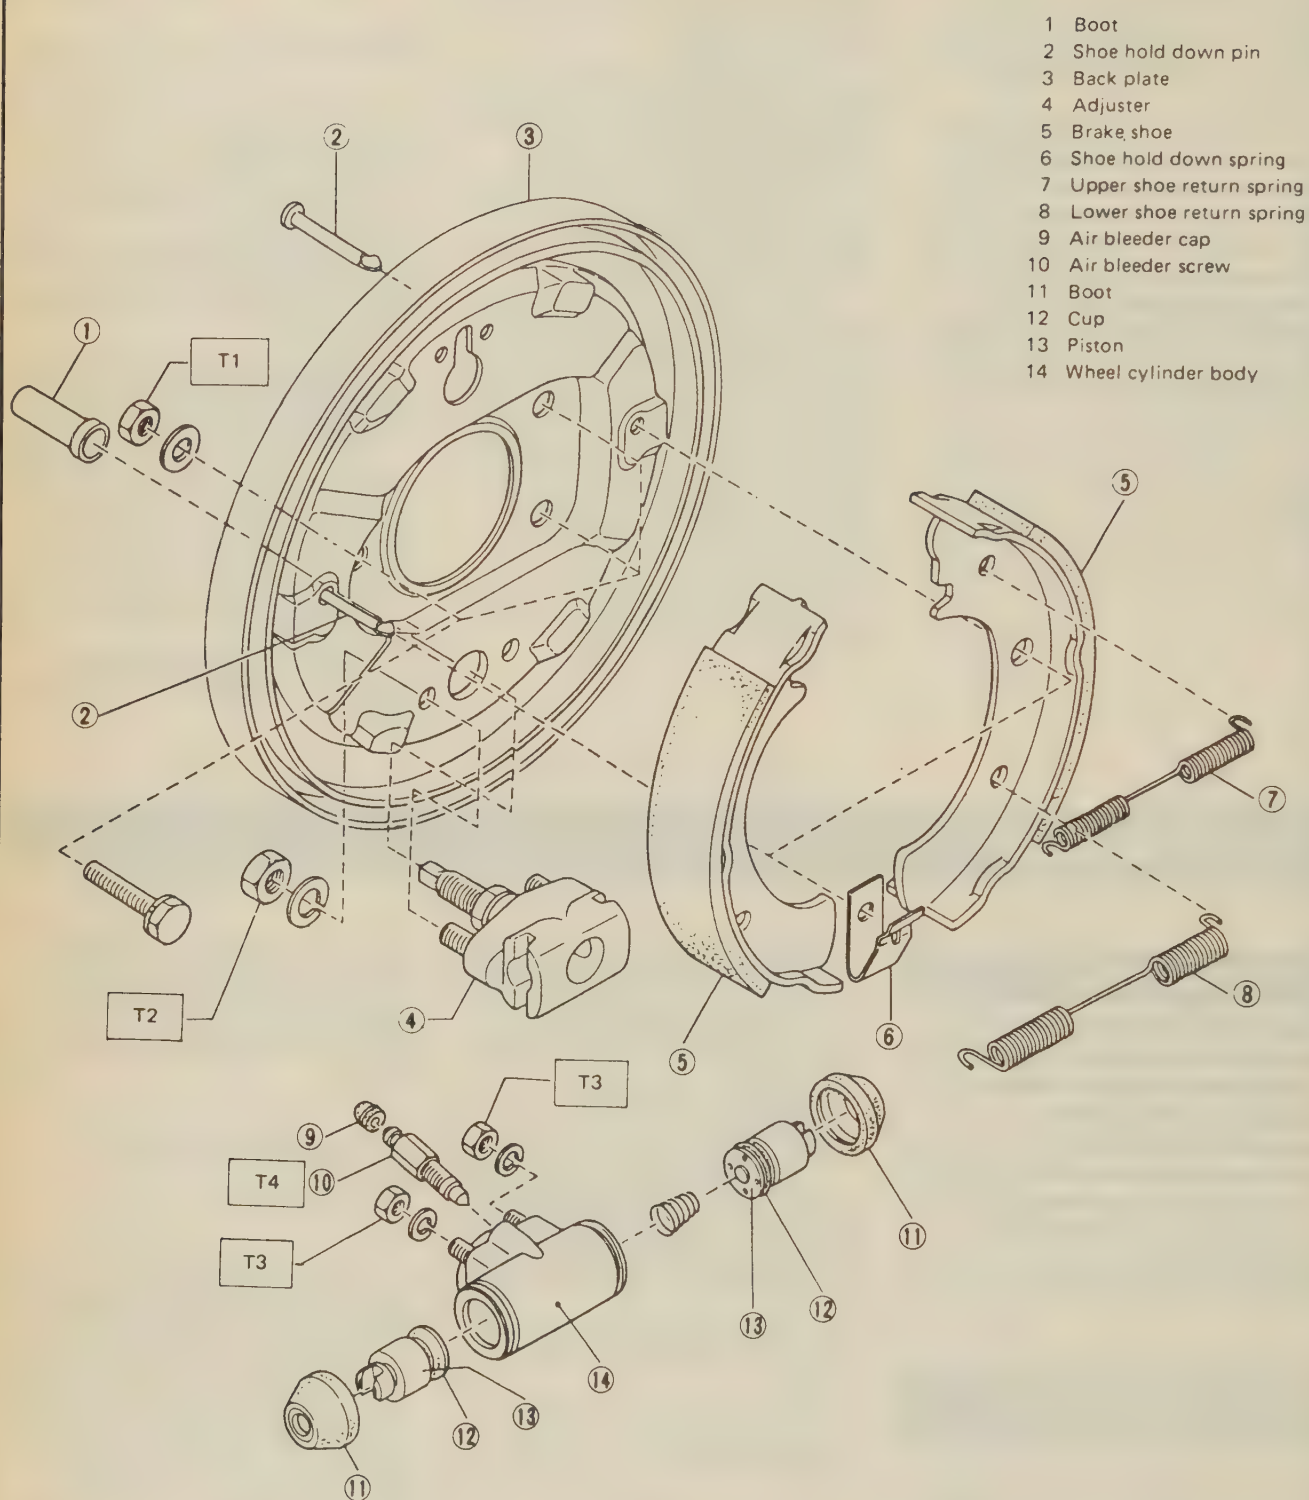

FIG. 36 Rear drum brake components — Loyale, STD. and XT
6. Install the wheel cylinder into position on the backing plate, be sure to place the sheet shim behind it. See FIGS. 36 and 37 for wheel cylinder mounting.